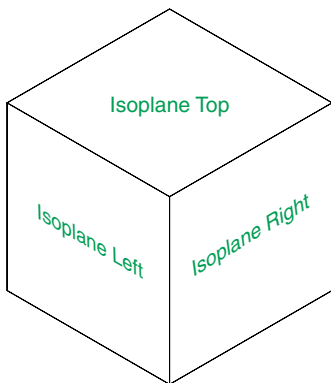

Fig. 7.16 The three isoplanes
2. There are three isometric angles – **Isoplane Top**, **Isoplane Left** and **Isoplane Right**. These can be set either by pressing the **F5** function key or by pressing the **Ctrl** and **E** keys. Repeated pressing of either of these ‘toggles’ between the three settings. Fig. 7.16 is an isometric view showing the three isometric planes.